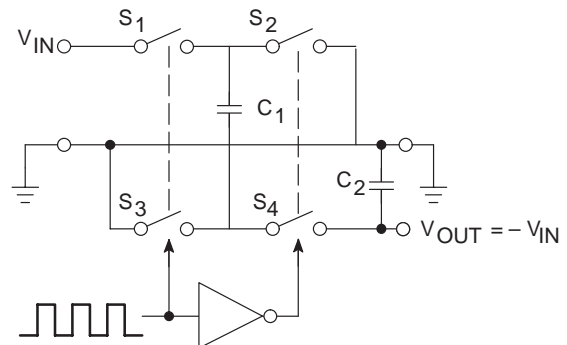
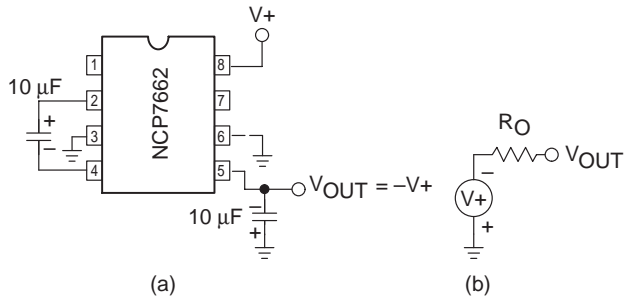
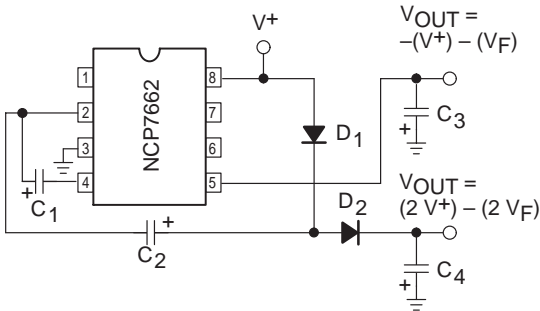

Figure 2. Idealized Negative Voltage Capacitor
Figure 3. Simple Negative Converter and its Output Equivalent
Figure 10. Combined Negative Converter and Positive Doubler
ELECTRICAL CHARACTERISTICS ($V^+ = 5\text{ V}$, $T_A = +25^\circ\text{C}$, OSC = Free running, Test Circuit Figure 2, unless otherwise specified.)
The NCP7662 contains all the necessary circuitry to complete a negative voltage converter, with the exception of two external capacitors which may be inexpensive 1 μF polarized electrolytic types. The mode of operation of the device may be best understood by considering Figure 2, which shows an idealized negative voltage converter. Capacitor C_1 is charged to a voltage V_+ for the half cycle when switches S_1 and S_3 are closed. (Note: Switches S_2 and S_4 are open during this half cycle.) During the second half cycle of operation, switches S_2 and S_4 are closed, with S_1 and S_3 open, thereby shifting capacitor C_1 negatively by V_+ volts. Charge is then transferred from C_1 to C_2 such that the voltage on C_2 is exactly V_+ , assuming ideal switches and no load on C_2 . The NCP7662 approaches this ideal situation more closely than existing non-mechanical circuits.
In the NCP7662 the four switches of Figure 2 are MOS power switches; S_1 is a P-channel device and S_2, S_3 and S_4 are N-channel devices. The main difficulty with this approach is that in integrating the switches, the substrates of S_3 and S_4 must always remain reverse biased with respect to their sources, but not so much as to degrade their "ON" resistances. In addition, at circuit start up, and under output short circuit conditions ($V_{\text{OUT}} = V_+$), the output voltage must be sensed and the substrate bias adjusted accordingly. Failure to accomplish this would result in high power losses and probable device latchup.
where V_1 and V_2 are the voltages on C_1 during the pump and transfer cycles. If the impedances of C_1 and C_2 are relatively high at the pump frequency (refer to Figure 2) compared to the value of R_L , there will be a substantial difference in voltages V_1 and V_2 . Therefore, it is desirable not only to make C_2 as large as possible to eliminate output voltage ripple, but also to employ a correspondingly large value for C_1 in order to achieve maximum efficiency of operation.
The majority of applications will undoubtedly utilize the NCP7662 for generation of negative supply voltages. Figure 3 shows typical connections to provide a negative supply where a positive supply of +1.5 V to +15 V is available. Keep in mind that pin 6 (LV) is tied to the supply negative (GND) for supply voltages below 3.5 volts.
The output characteristics of the circuit in Figure 3 can be approximated by an ideal voltage source in series with a resistance as shown in Figure 3b. The voltage source has a value of $-(V+)$. The output impedance (R_O) is a function of the ON resistance of the internal MOS switches (shown in Figure 2), the switching frequency, the value of C_1 and C_2 , and the ESR (equivalent series resistance) of C_1 and C_2 . A good first order approximation for R_O is:
Figure 10 combines the functions shown in Figures 3 and 9 to provide negative voltage conversion and positive voltage doubling simultaneously. This approach would be, for example, suitable for generating +9 V and -5 V from an existing +5 V supply. In this instance, capacitors C₁ and C₃ perform the pump and reservoir functions, respectively, for the generation of the negative voltage, while capacitors C₂ and C₄ are pump and reservoir, respectively, for the doubled positive voltage. There is a penalty in this configuration which combines both functions, however, in that the source impedances of the generated supplies will be somewhat higher due to the finite impedance of the common charge pump driver at pin 2 of the device.